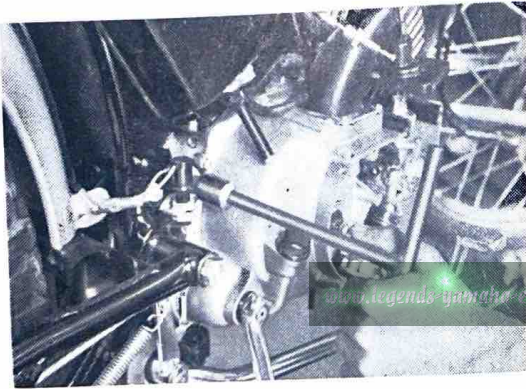

Fig. 3-1-16
16. Pull out the two mounting bolts on the upper part of the engine, and loosen the foot rest mounting bolt. Then tilt the engine forward. (Figs. 3-1-16 and 17)